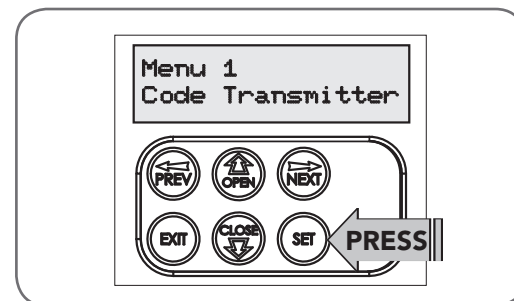

Fig 8.2
2. Press SET to enter the code set procedure (Fig. 8.2).
- a. Select left or right installation side by pressing open button for the correct side (Fig. 8.2).